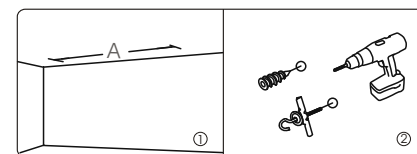

Figure 12
1. To drill two same holes with an electric drill horizontally with wall, then fasten hangers (unprovided) onto the ceiling. ( Figure 12 )